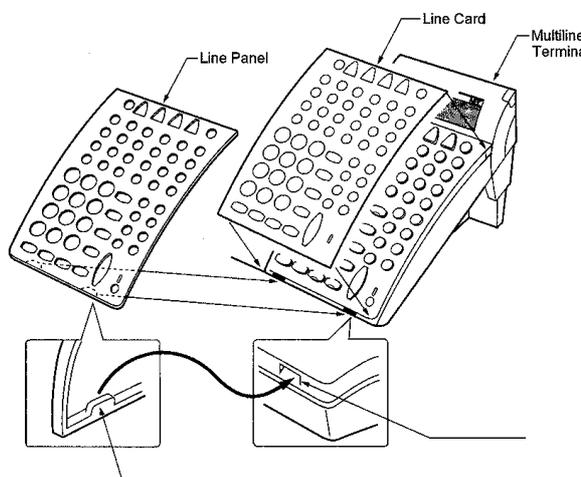
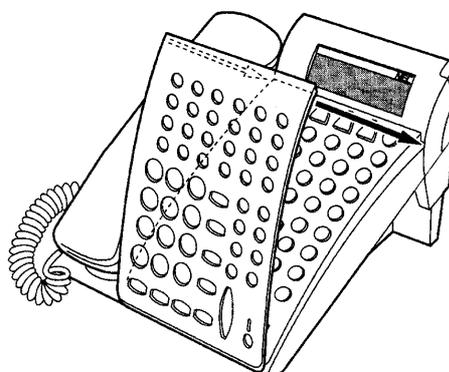

Figure 6-12 Installing Line Card and Plastic Panel on a Multiline Terminal
Figure 6-13 Installing Plastic Panel
2. Place the tabs on the bottom of the plastic panel into the grooves at the terminal bottom, and press top right and left ends to secure plastic panel to the Multiline Terminal. Refer to *Figure 6-12 Installing Line Card and Plastic Panel on a Multiline Terminal* and *Figure 6-13 Installing Plastic Panel*.